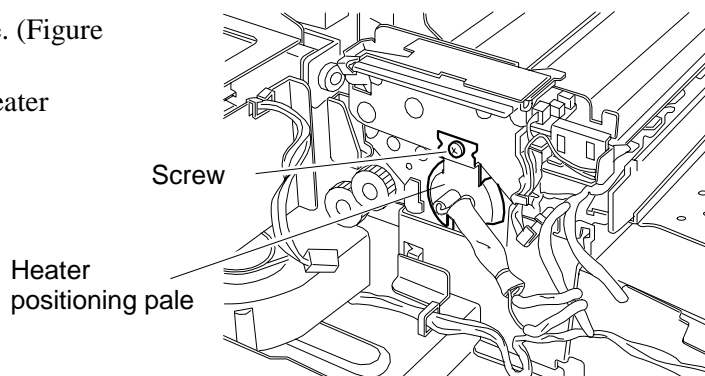

Fig. 4
- 4) Remove the heater positioning plate. (Figure 4)